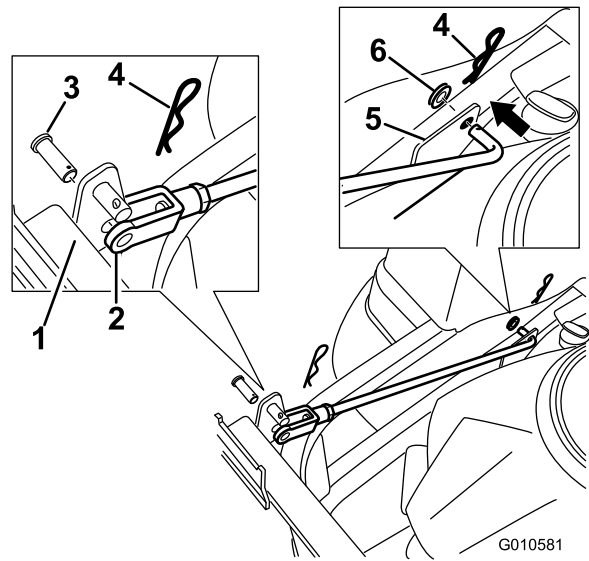

Figure 6
- Install two support rods, one to each side of the bagger frame. Locate the existing bracket between the rear drive wheel and frame (Figure 6).
- Insert the bent ends of the rod into the bagger frame as shown in Figure 6. Secure the end of the rod with a washer and hair pin.
- Secure the clevis end of the rods to the bagger frame using a clevis pin and hair pin cotter (Figure 6).